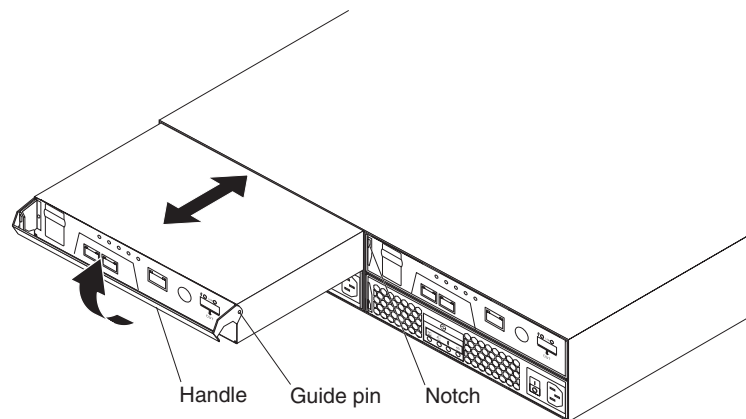

Figure 36. Installing a controller
- b. Slowly pull the handle away from the chassis to remove the filler panel from the bay, as shown in Figure 36.
- b. Make sure that the guide pins on the side of the controller fit into the notches on the DS3300 chassis. See Figure 36.